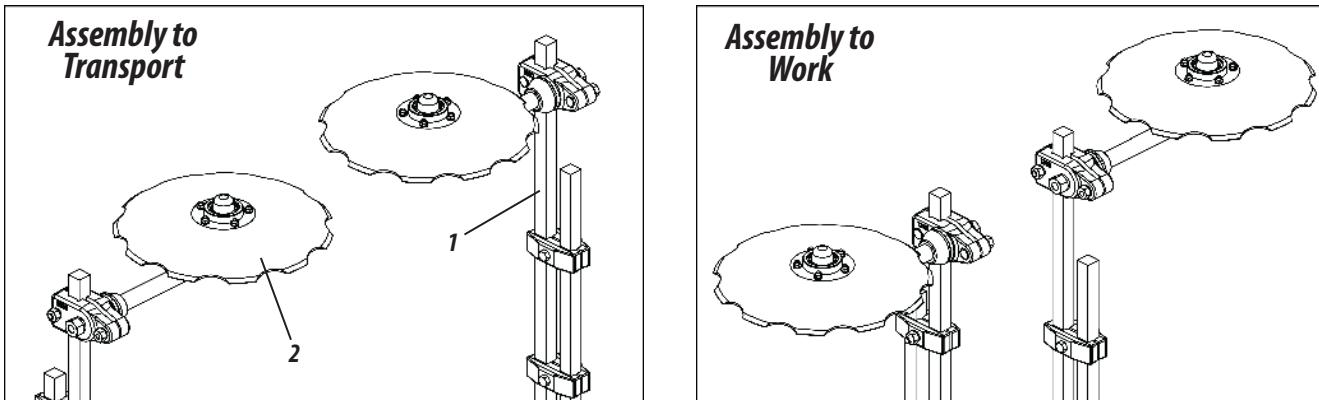

Figure 07
- 08 - The seed drills leave the factory with line markers (1) already assembled. Discs (2) are assembled inversely to their respective markers to avoid the risk of accidents in the drill transport, as shown in Figures 07.